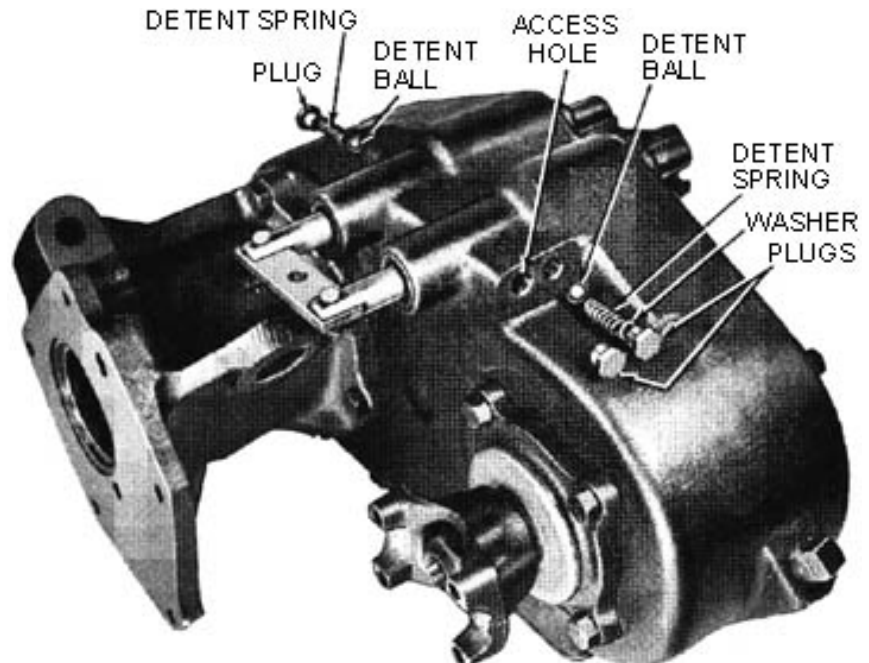

Figure 3 – Front and Rear Drive Shift Rail Detent Balls, Springs, and Plugs
2. Remove the retaining plug, flat washer, detent spring, and ball that engage the front drive shift rail detent rod. Then, remove the plug from the front drive detent rod access hole (Fig. 3)
3. Remove the retaining plug, detent spring, and ball that engage the rear drive shift rail detent rod (Fig. 3).